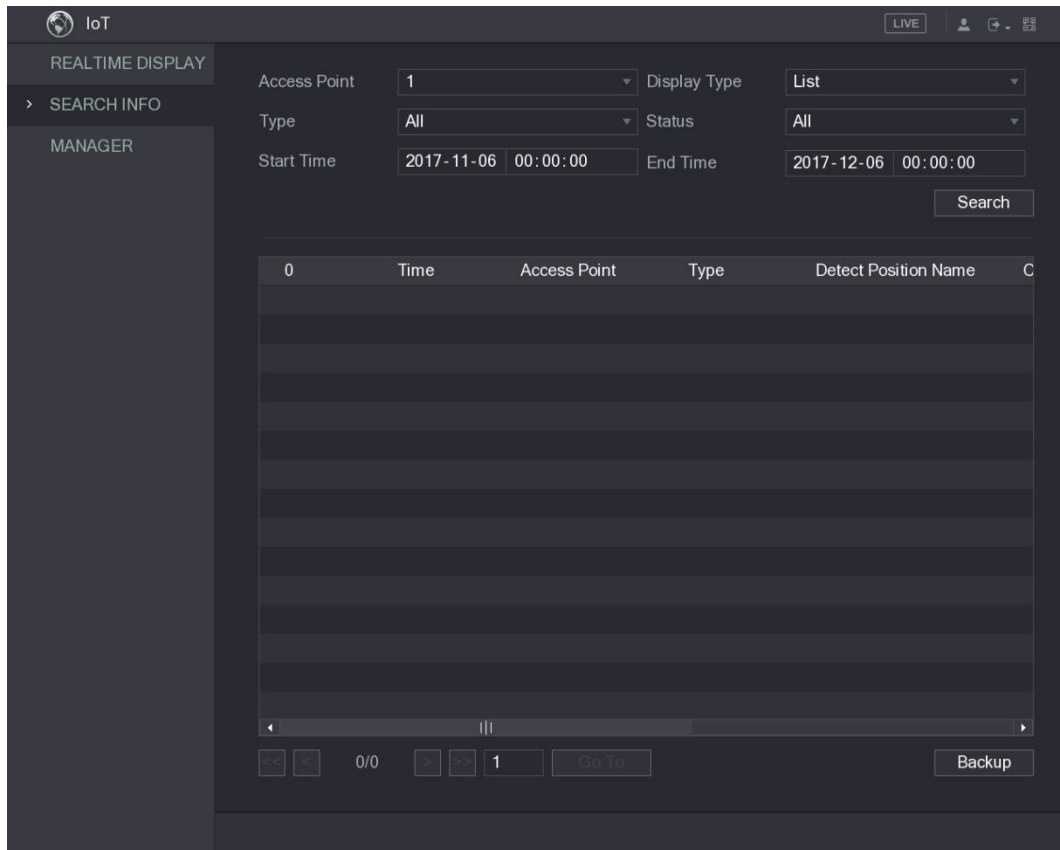

Figure 5-189
Step 1 On the main interface, select **IoT > SEARCH INFO**. See Figure 5-189.